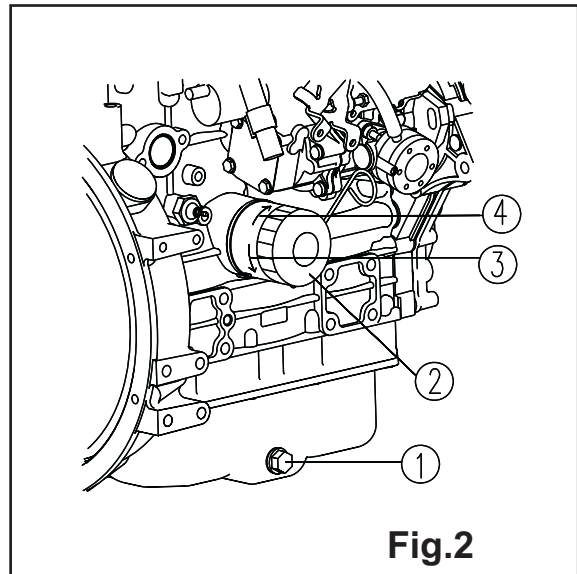

Fig.2
- 4) Take out one of filter cover (② in fig. 2), open the exit of brace case to drain the engine oil more easier
- 6) Take out the drain valve (① in fig. 2) to drain the oil.
- 1) Use a spanner to turn the oil filter (② in fig. 2) deasil (③ in fig. 2).